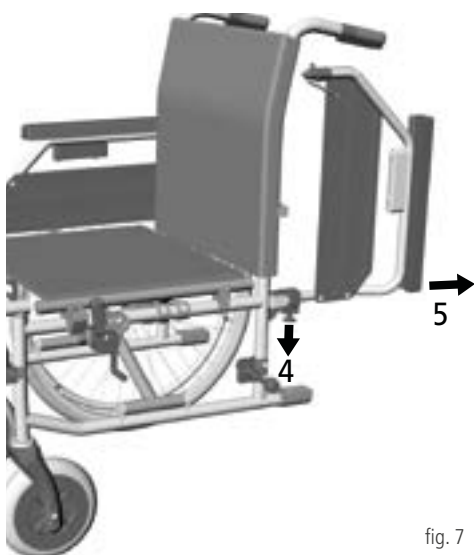

fig. 7
2. Pull the rear pin on the clamping device downwards (4, fig. 7).
3. Grip the side part by the armrest and pull it back out of the holder (5, fig 7).